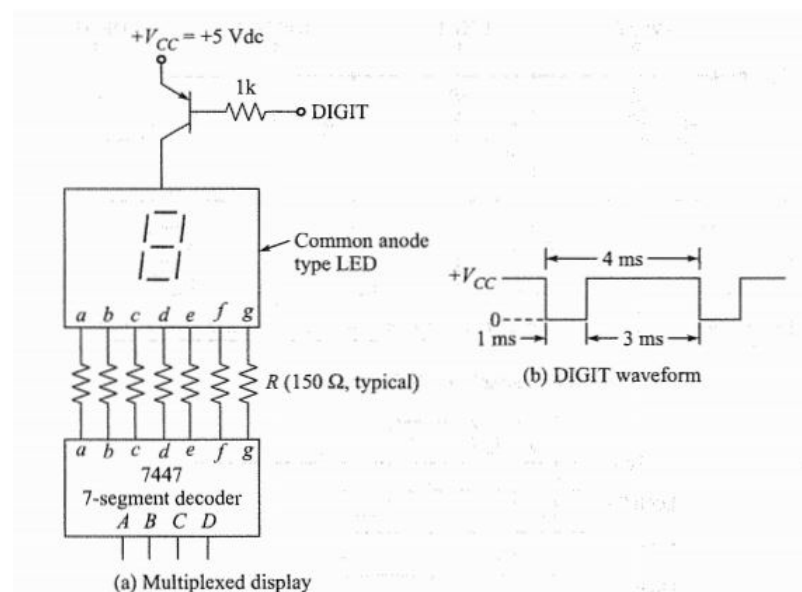

Figure 11.2: Multiplexed display using PNP transistor and its output.
- In figure 11.2, a single digit display is shown. +5 V DC is applied through a pnp transistor that acts like a switch.